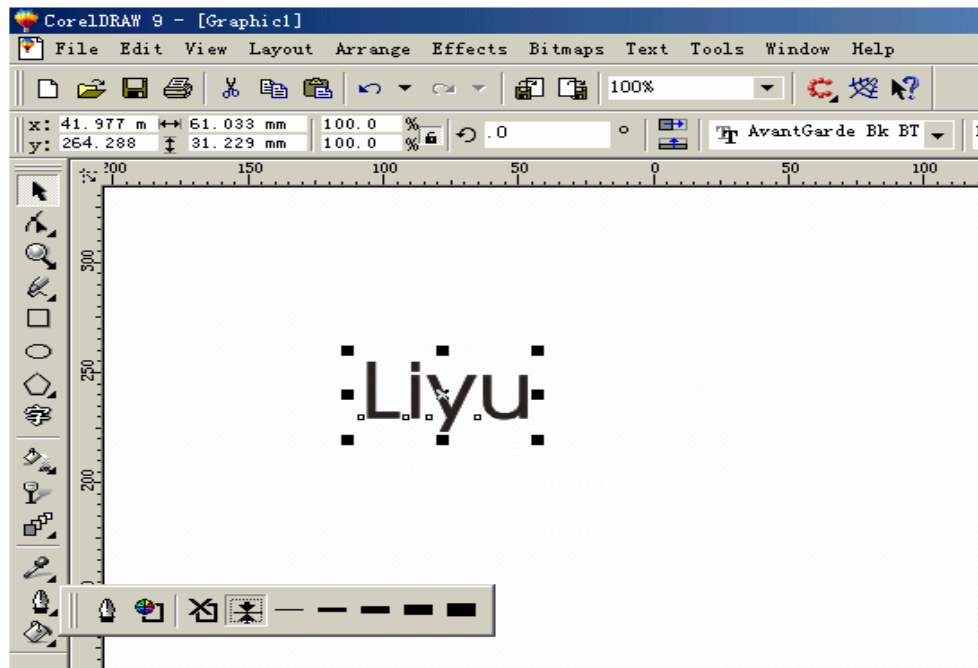
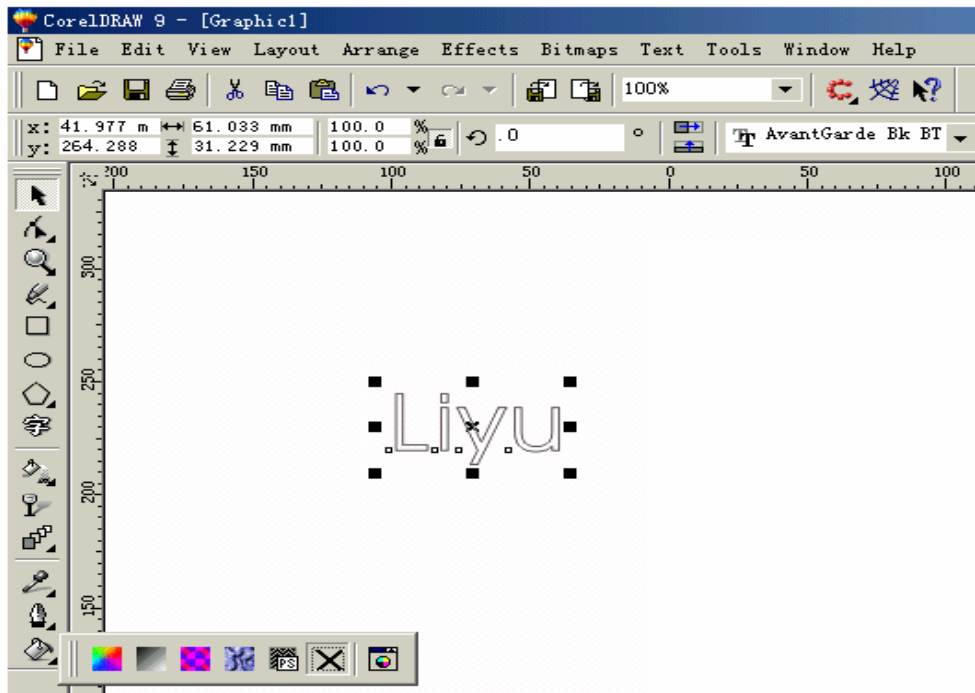

Figure 1. CorelDraw Edit Area - 1
Figure 2. CorelDraw Edit Area - 2
(1) For letter or character, first SKETCH them (as Figure 1), then FILL them with **NOFILL** (as Figure 2), and PRINT.